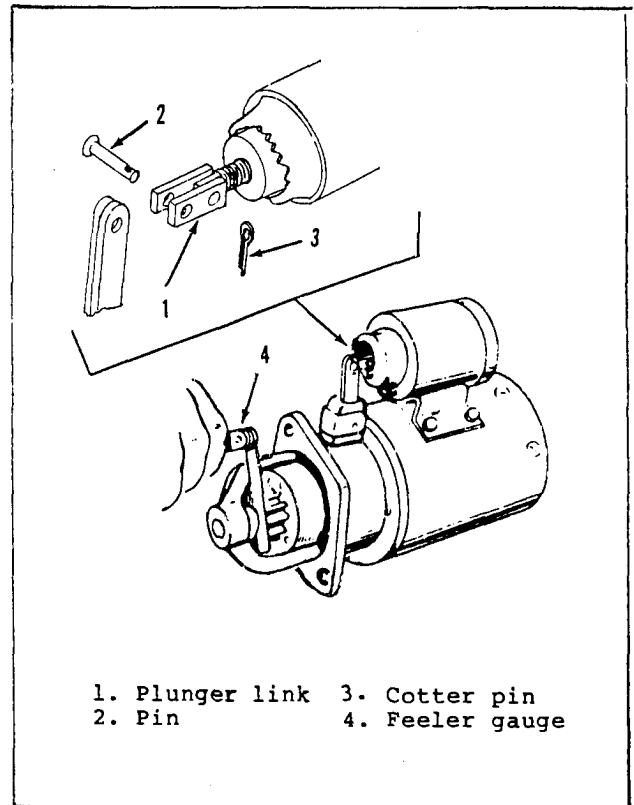

Figure 5-13 Checking Pinion Clearance.
(2) Check pinion gear clearance. See figure 5-13. Proper clearance is important to insure starter engagement. To check, press on solenoid plunger to shift pinion gear into full mesh position. While holding plunger in, measure clearance with feeler gauge (4) between pinion gear and stop. The proper clearance is  $0.096 \pm 0.030/-0.020$  inch. Adjust clearance by turning solenoid plunger link (1) in to decrease gap, or out to increase the gap. See figure 5-13 cutaway view. Reinstall the pin (2) and cotter pin (3) securing plunger link (1) to yoke.